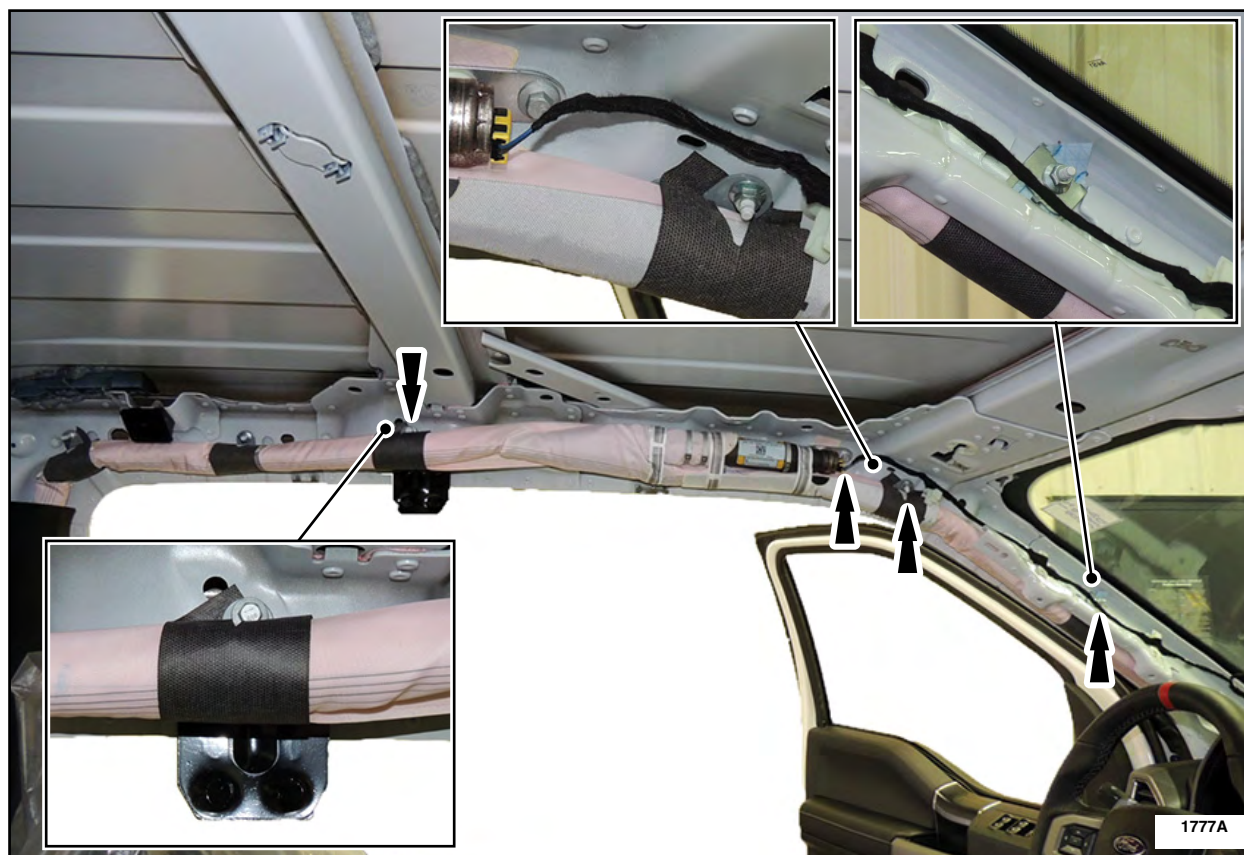

FIGURE 1
See Figure 1.
- b. Remove the four fasteners on each side, as shown in Figure 1.
- c. Install the four RH and LH side curtain airbag fasteners shown in Figure 1.